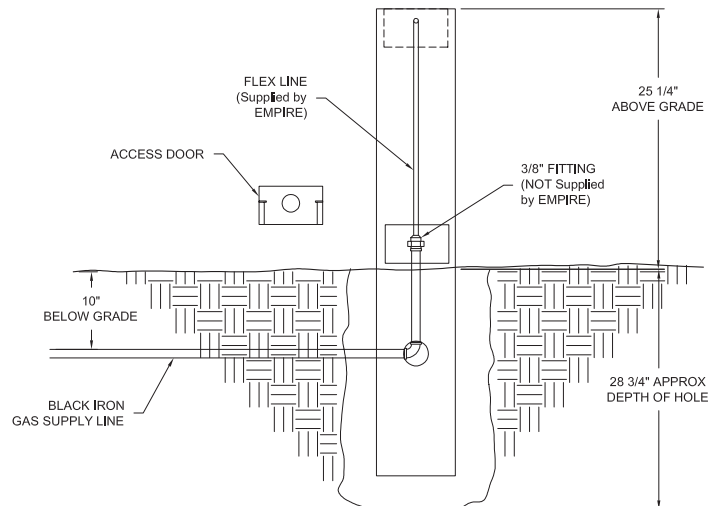

Figure 5
5. Arrange with your local gas company or licensed contractor to have a gas supply line connected to the inlet of the stainless steel flex tube assembly. The gas supply must have a shutoff valve that is close to the post in case of emergency and must be shutoff when the grill is not in use. See Figure 5